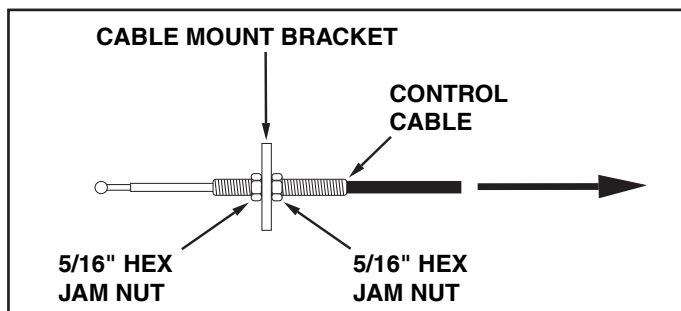

FIGURE 23
3. If the blade will not unlock and pivot, the angle lock bars are not disengaging from the slots in the pivot plate. To correct, adjust the 5/16" hex jam nuts to draw the end of the control cable back towards the cable mount bracket. The less the threaded end of the cable extends through the bracket, the more the angle lock bars can retract to disengage from the slots in the pivot plate. See figure 23.